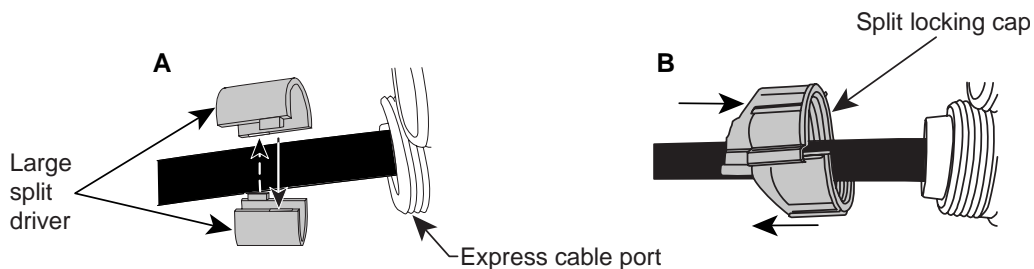

Figure 7
1. Select the large split driver for express ports (Figure 7-A), then fit the split driver over the cable and position against the grommet at both express port entrance locations.
2. Select the correct size split locking cap (larger one fits the express port). Fit over the cable and lock the two halves together, Figure 7-B.
4. Select the correct size split locking cap (smaller one fits the drop port). Fit over the cable and lock the two halves together, Figure 7-B.